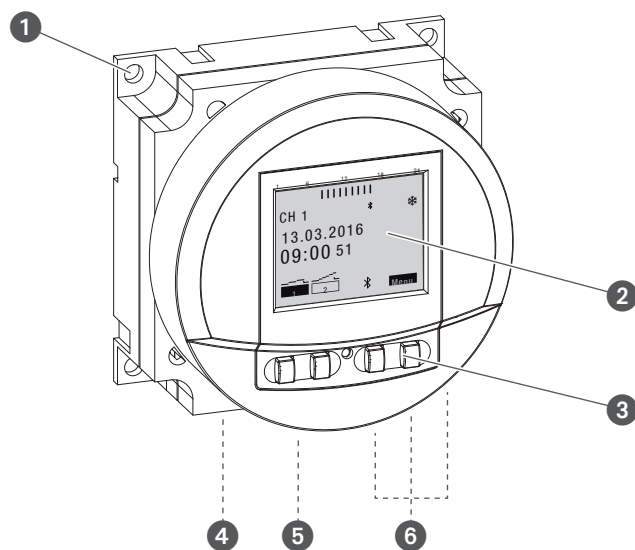
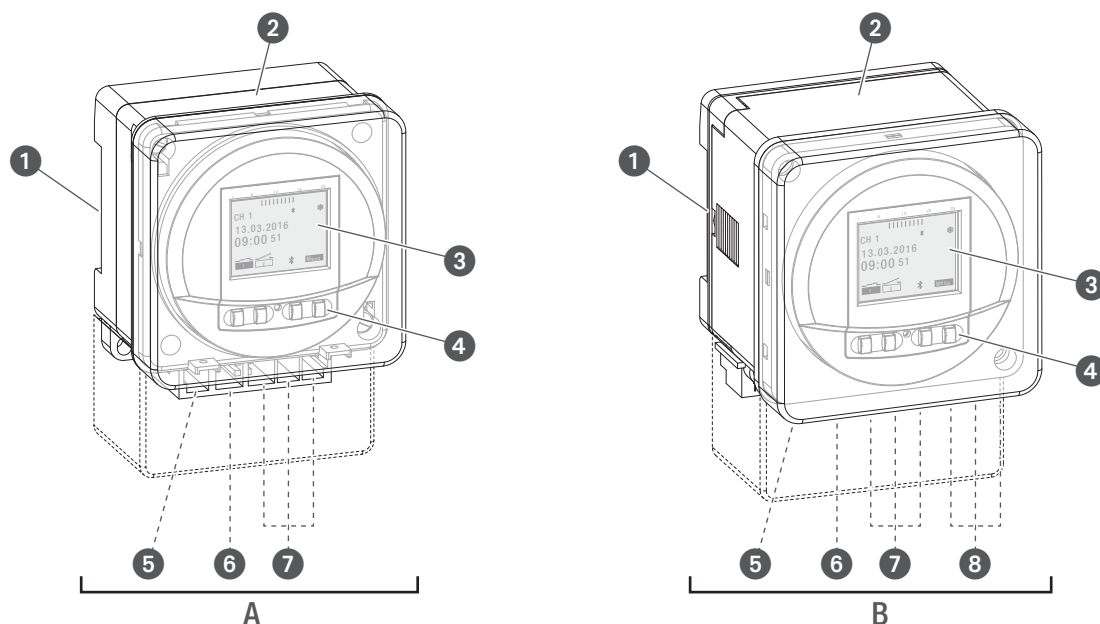

Fig. 1: FMD smart timer
Fig. 2: tactic smart timer
Depending on the type, the timer is suitable for flush mounting, surface mounting or attachment to a DIN rail by means of a click system (↪ Chapter „Installation“ on page 68); the timer activates the connected device. The timer has one or two channels (depending on the type) and can be operated via a display (Fig. 1/②, Fig. 2/③) with four control buttons (Fig. 1/③, Fig. 2/④). The timer can be programmed manually or via a mobile device. The radio signal frequency is 2.4 GHz and the maximum transmission power is 1.8 mW. The timer can only be programmed after it has been connected to an external power supply.